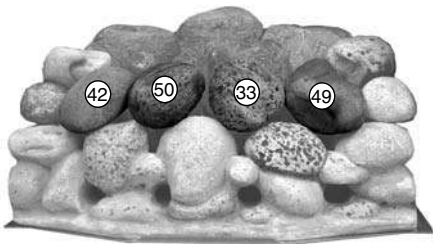

Fig. 29
4. Lay the first row of four loose pebbles on top of the front coal. Ensure the back of the pebbles are resting on the coal bed and there are even gaps all round (Fig. 29).